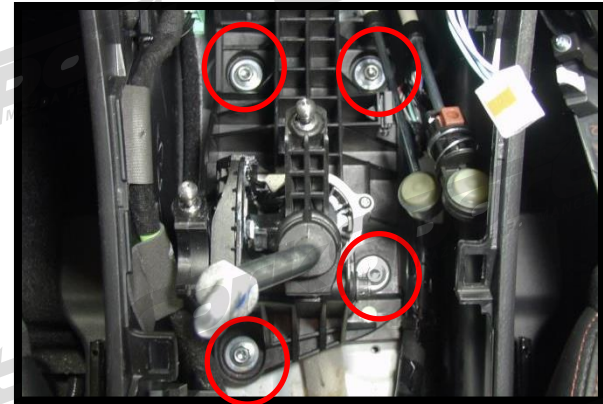

Figure 2e
- g) Reinstall the four (4) 10mm bolts (Circled in Figure 2e). Move the shifter housing in a circular back and forth pattern to seat the bushings up into the shifter housing while threading the bolts into place by hand. Make sure to go through the center of both of the shifter bushings. Torque to 3-5 ft-lbs.